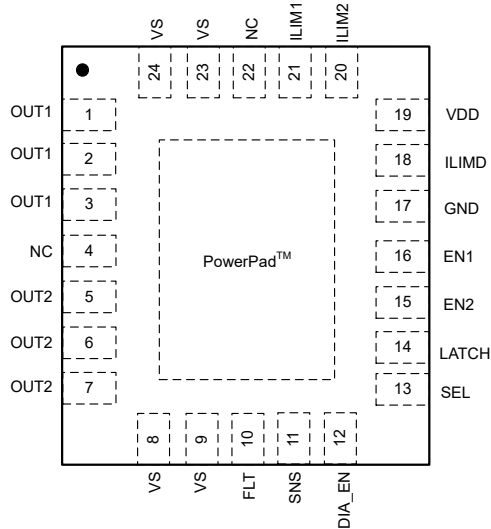

图 6-1. RHF Package, 24-Pin QFN (Top View)
• Deleted Preview only designation from 图 6-1 .....	4